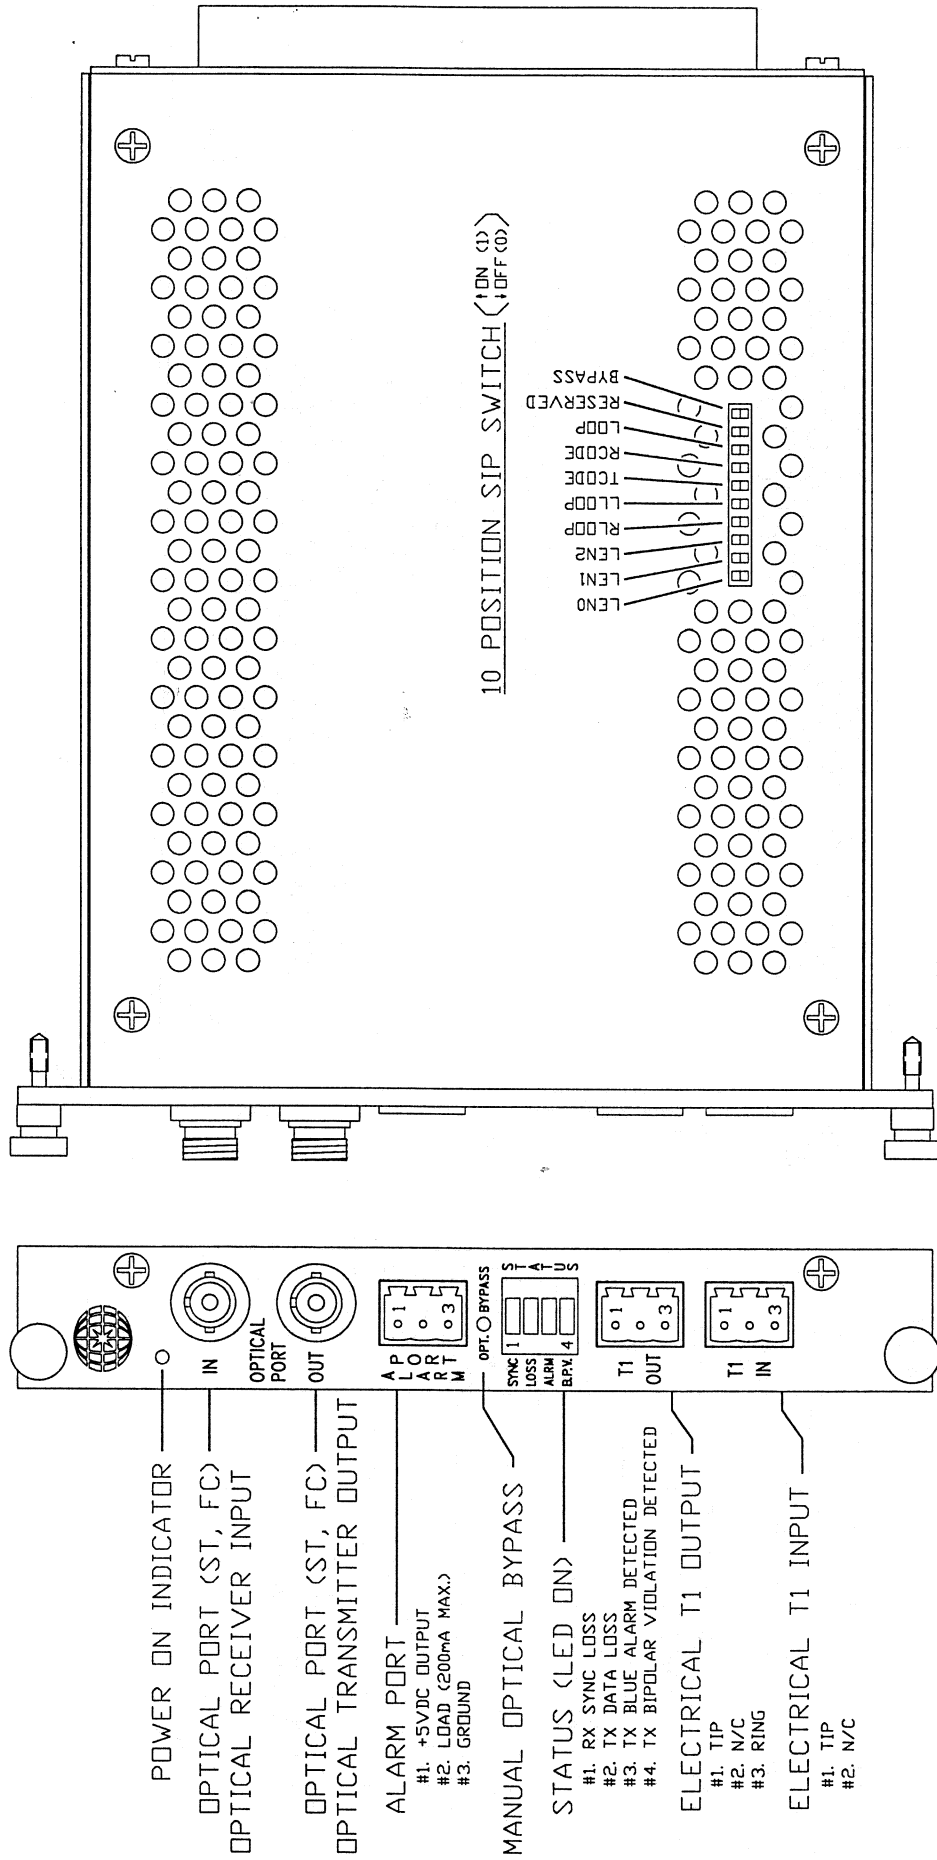

FIGURE 1. T1 PINOUT & SIP LOCATION
2. Connect T1 or E1 signal to TIP and RING terminals (Fig. 1 or 2).
4. Connect the power. Check status of LEDs (Fig 1 or 2). The red “power” LED should be ON. Green “status” LEDs should be OFF. T1 or E1 link should operate normally.
6. Alarm port is designed to connect external optical BPX series bypass switch to pins 2 and 3 or relay (5 VDC, 200 mA Max) between pins 1 and 2 (Fig. 1 or 2).